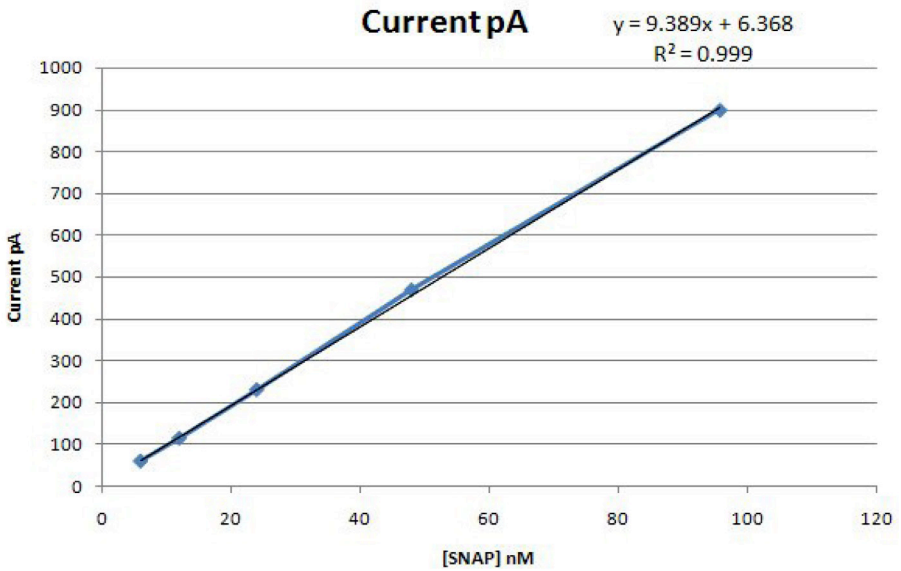

Fig. 4—Scatter plot of data from example
9. Construct a standard calibration curve using the recorded data. Using a spreadsheet with graphing capability like Microsoft® Excel, it is possible to generate a linear regression analysis that will display the equation and the  $R^2$  coefficient. To do this in Excel, enter the data and generate a "scatter plot" graph. Then, select the line and right click. Choose **Add Trendline**. The **Format Trendline** dialog box appears. On the **Trendline Options** tab, select **Linear**, **Display equation on chart** and **Display R-value on chart**. (See Fig. 4.)